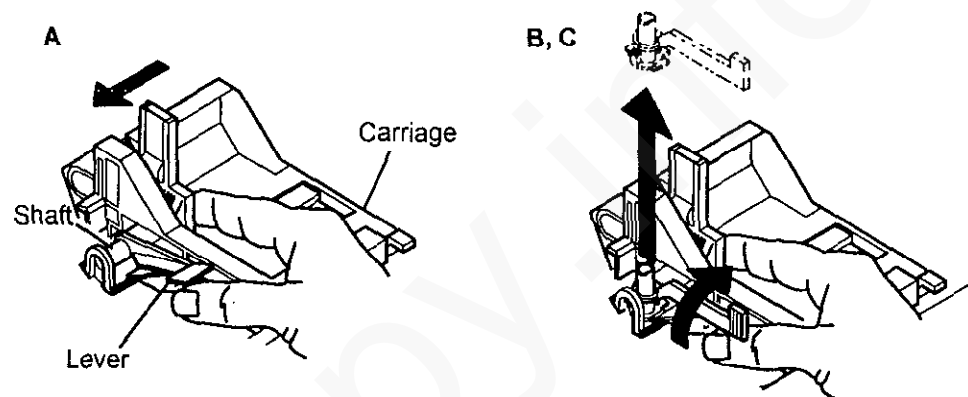

Figure 1 Removing the Cam Pin
3. Remove the Cam Pin. (Figure 1, A-C)